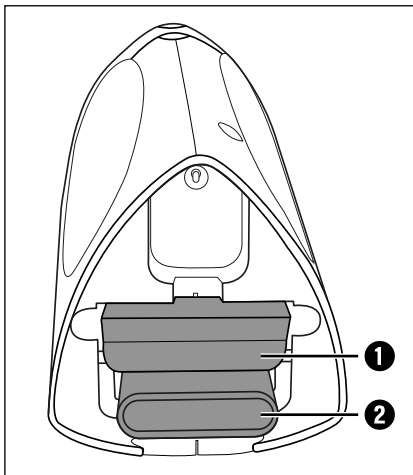

Fig. 3
- 2) If required, place the appropriate nozzle in the suction opening. The crevice tool **2** and the wet suction nozzle **1** are kept in the space-saving accessory storage in the handle (fig. 3).